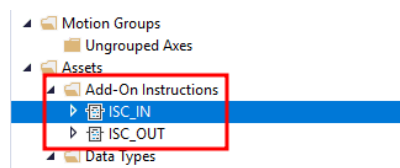

Figure 35: AOI_ISC_CAM_v2_INPUTS & AOI_ISC_CAM_v2_OUTPUTS Added to Studio 5000 Project
20. Both AOI_ISC_CAM_v2_INPUTS and AOI_ISC_CAM_v2_OUTPUTS add-on instructions shall be added to the project, Figure 35.